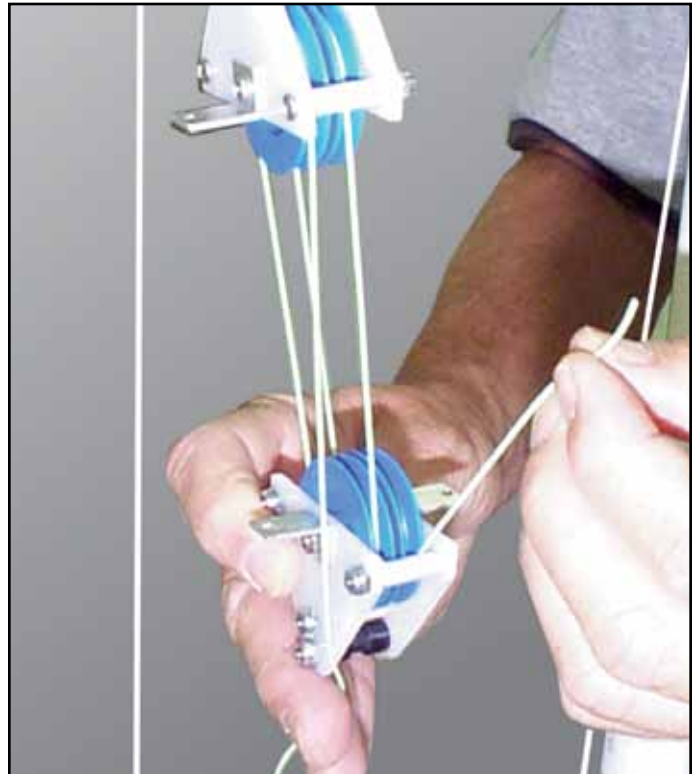

Figure 16
- e. Thread the line down and around the second bottom pulley and up on the inside (Figure 16).